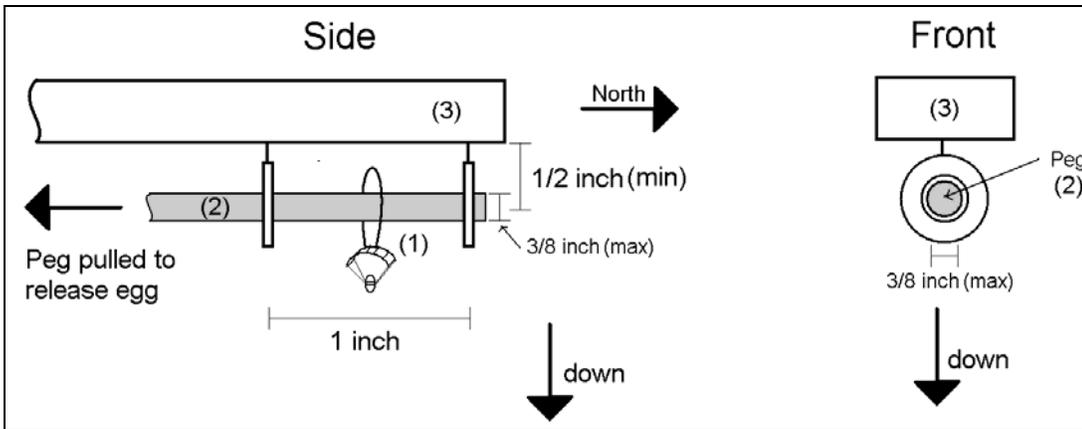

Figure 1: (1) Contraption Connected to Pin, (2) Release Pin, (3) Boom of Release Mechanism
- Be able to attach to the release mechanism (see Figure 1)